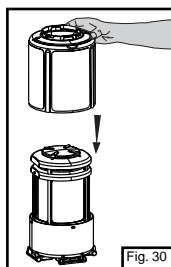

Fig. 30
- ⇒ Place the lantern inside the lower carry case and place the upper carry case over the lantern. (Fig. 30)